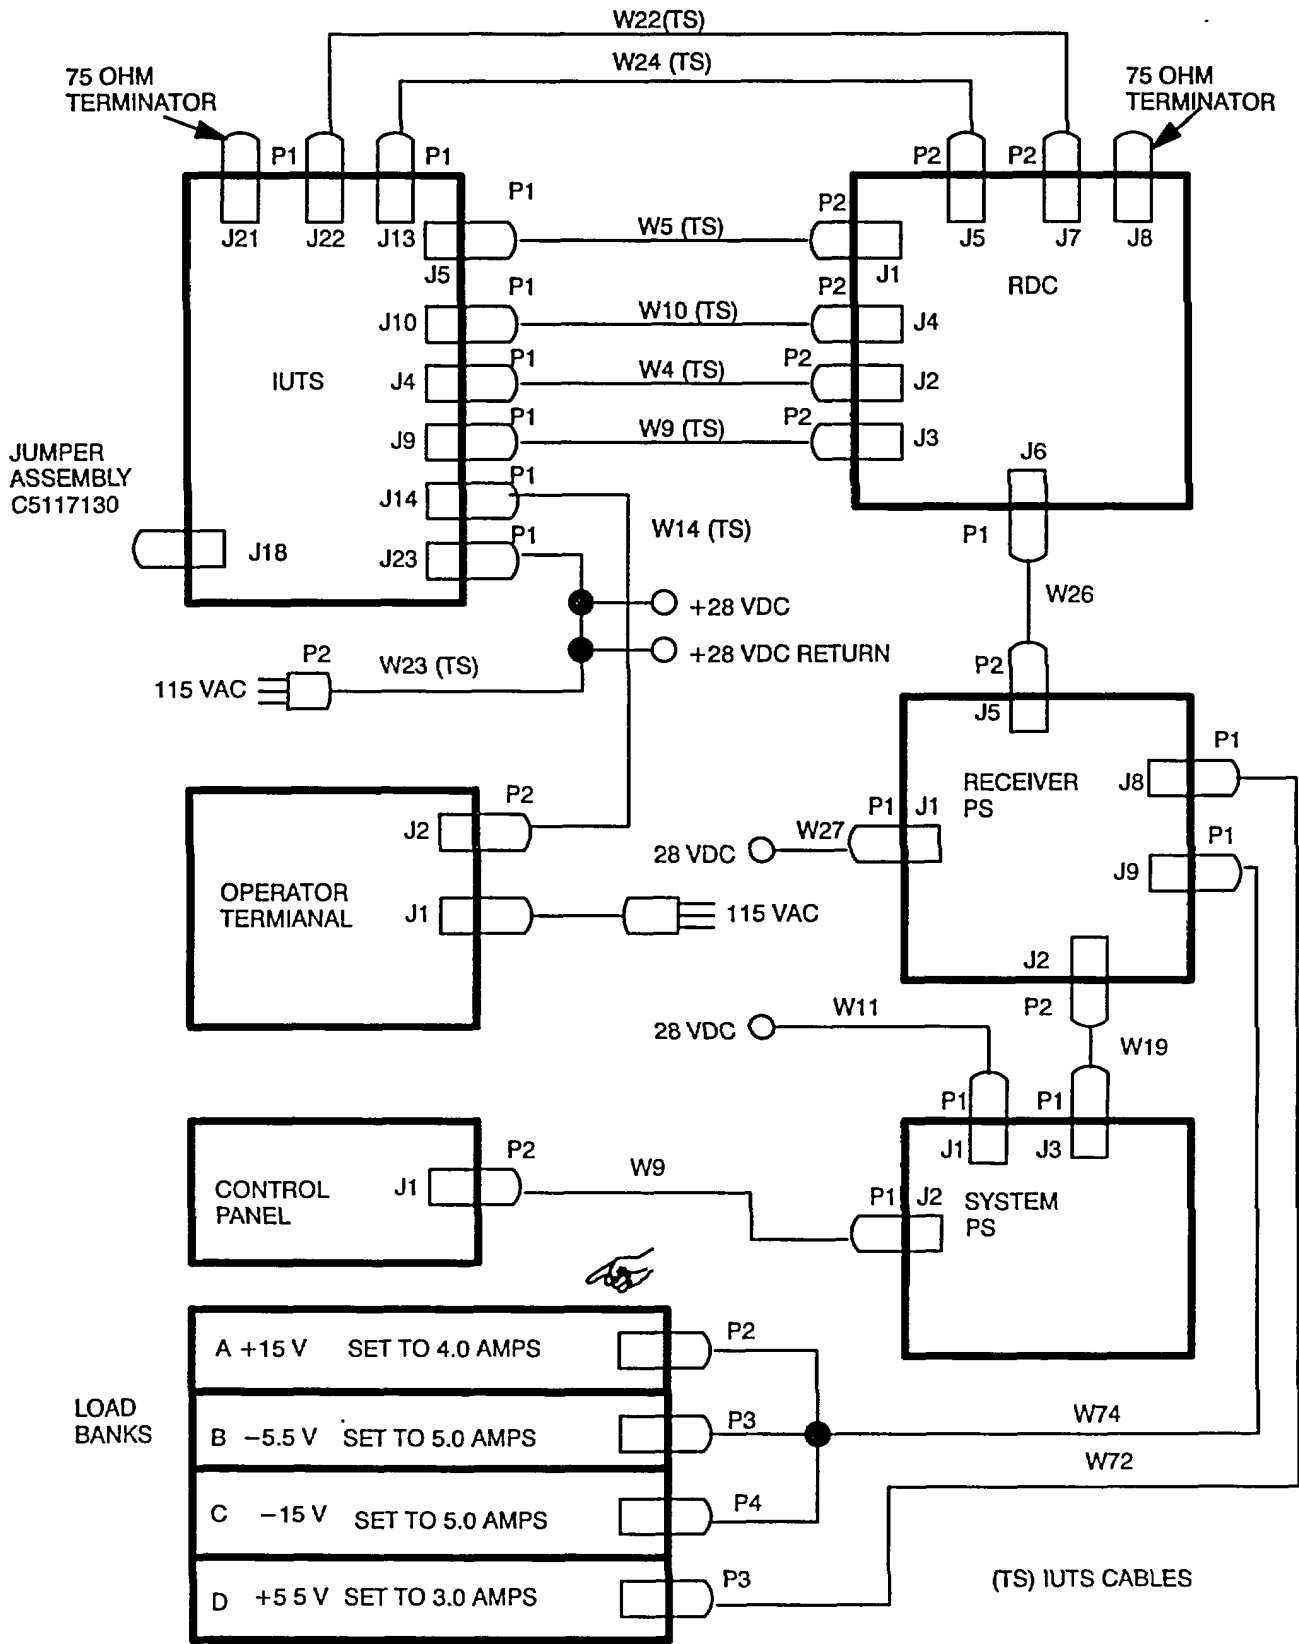

FIGURE 5-1. TEST SETUP
Refer to paragraph 5-1 and test setup diagram (fig. 5-1).
- (1) Make test setup (fig. 5-1).
- (2) Set IUTS ac ON/OFF switch to OFF.
- (3) Set control panel POWER switch to OFF.
**There are two different operator terminals used in this test setup. One is for system 4 (HP Terminal 2645N given in steps (4) thru (6) below and the other for system 1 (HP Terminal 700/43 given in step (7) below:**
- (4) On operator terminal (HP Model 2645N) set the controls as follows: